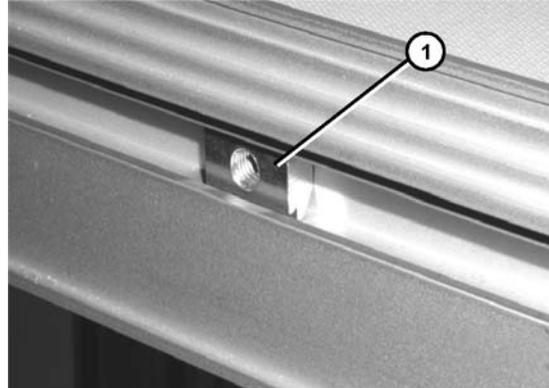

**Figure 8**
2. Attach button box kit (**Figure 8, item 1**) to conveyor with screws (**Figure 8, item 2**).